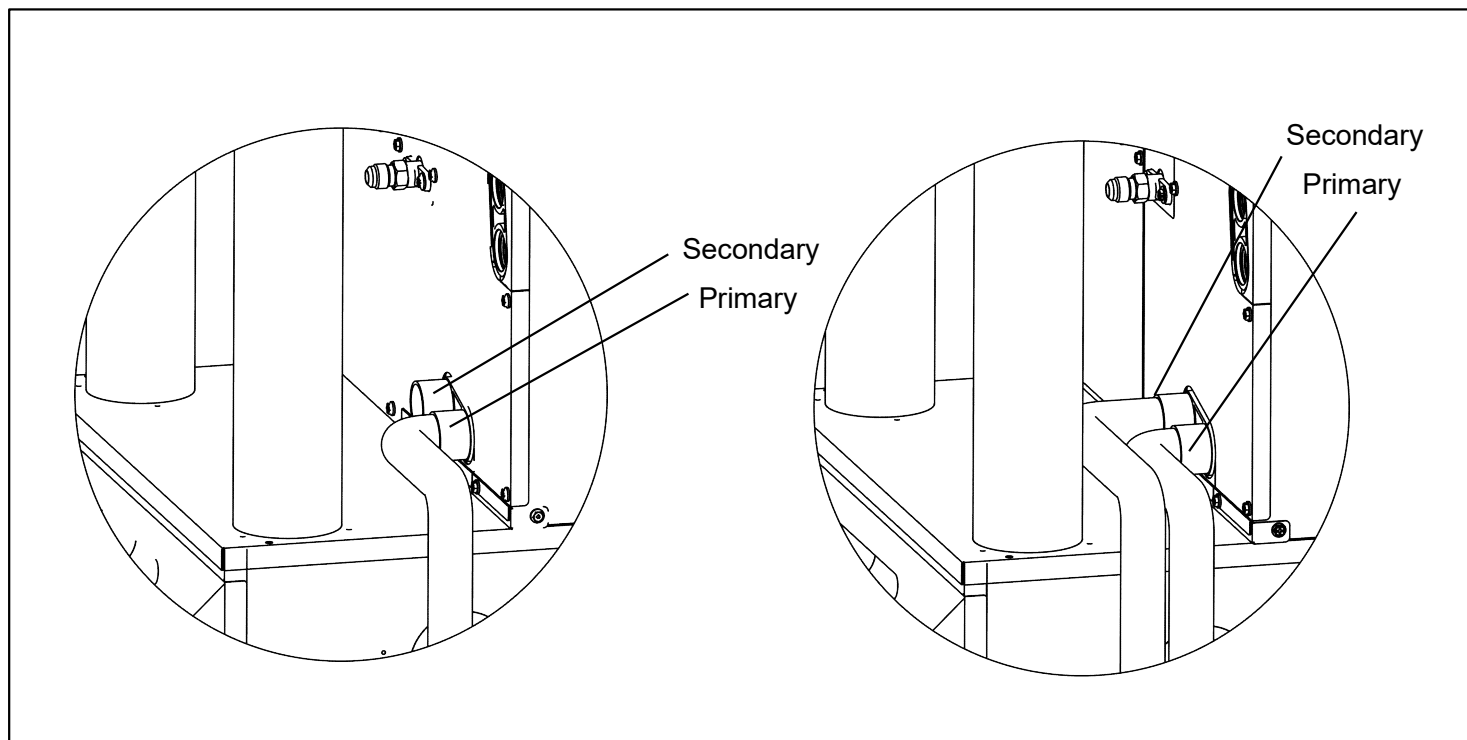

Figure 9、10
- Install a trap in the drain line below the bottom of the drain pan. If using a copper drain line, solder a short piece of pipe to the connector before installing a drain fitting. DO NOT over torque the 3/4" copper connector to the plastic drain connection. Use a wet rag or heatsink material on the short piece to protect plastic drain pan, complete the drain line installation (Fig.9). Use (Fig.10) as a template for typical drain pipe routing. This figure shows how to avoid interference with vent piping.